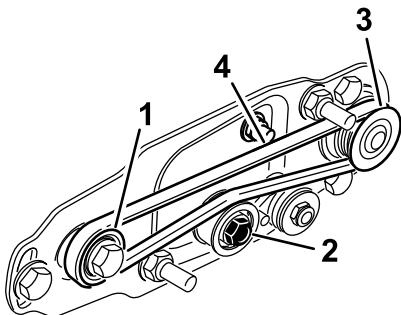

Figure 16
- Loop the belt around the **driven** pulley and then over the top of the idler pulley (Figure 16).
- Start the belt on the **drive** pulley (Figure 16).